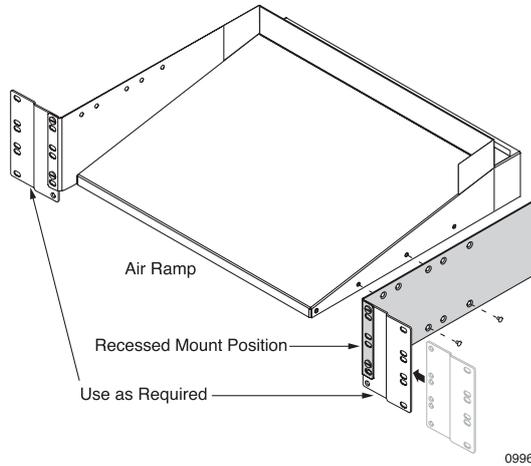
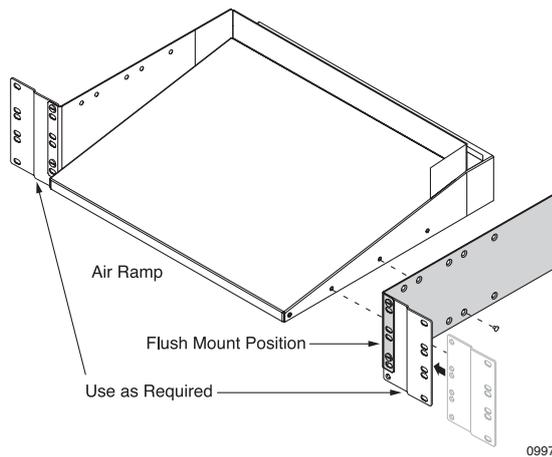
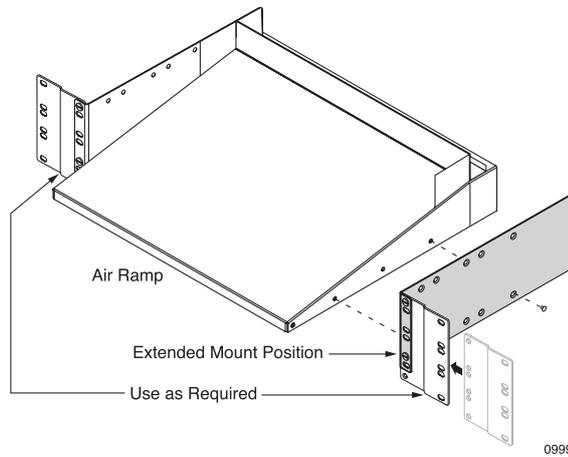
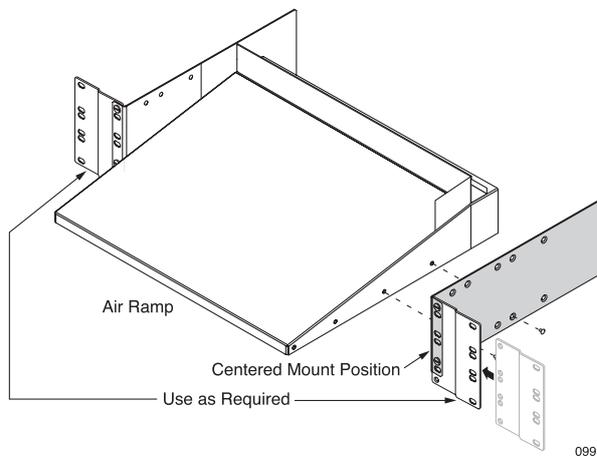

Figure 11 Installing Air Ramp Brackets for the Recessed Mount Position
Figure 12 Installing Air Ramp Brackets for the Flush Mount Position
Figure 13 Installing Air Ramp Brackets for the Extended Mount Position
Figure 14 *Installing Air Ramp Brackets for the Centered Mount Position*
1. Position a mounting bracket against one side of the lower air ramp, lining up two of the screw holes in the bracket with two of the screw holes in the side of the air ramp. Ensure that the bracket position corresponds to the position of the chassis mounting brackets; see Figure 11, Figure 12, Figure 13, and Figure 14 for these details.